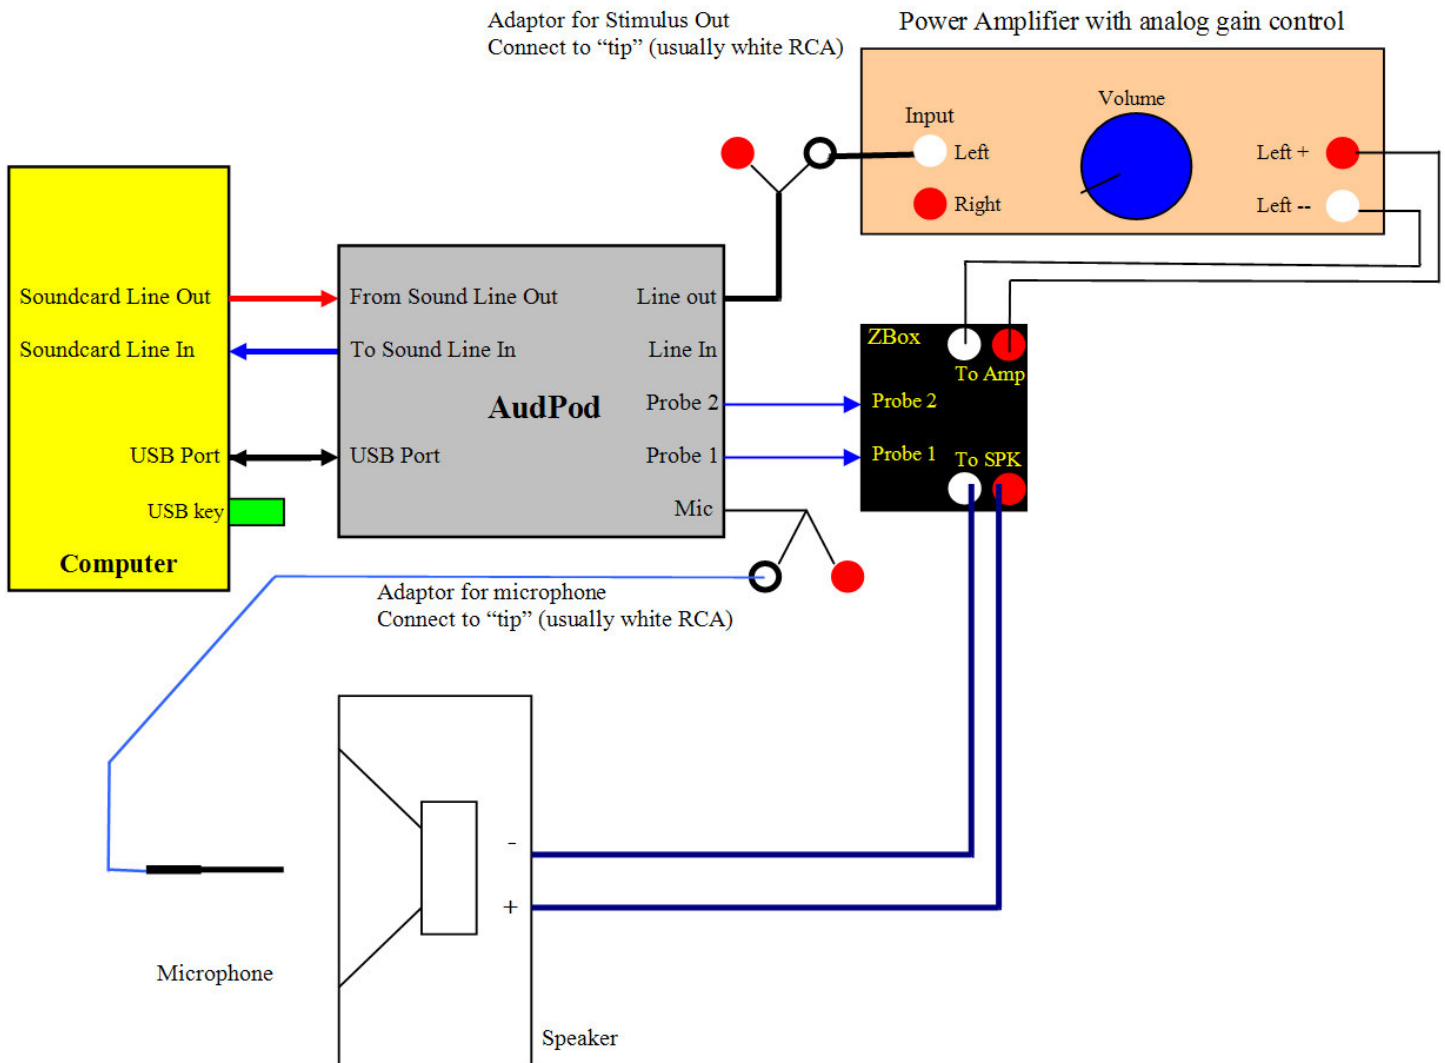

Figure 1
2. Connect the AudPod and soundcard according to Figure 1. Connect ZBox and amplifier per Figure 1. If you do not have an AudPod, PRAXIS will not run the AudioPass module in the “Free” or “Demo” mode.